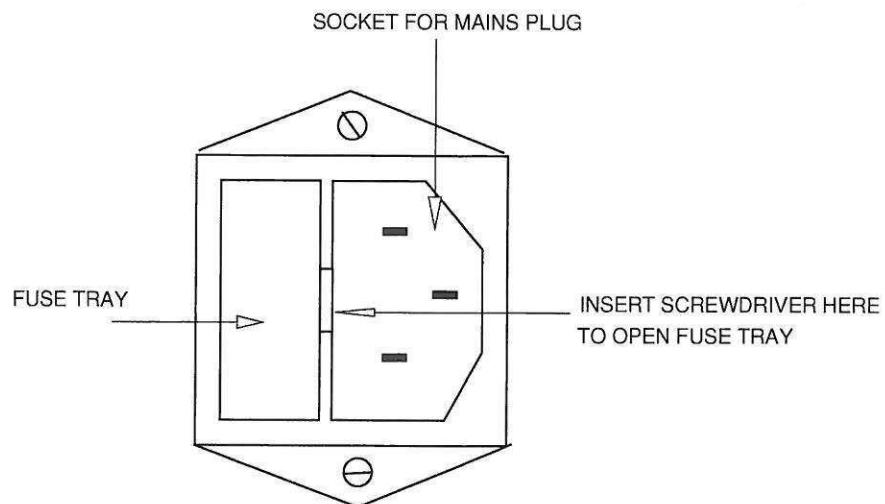
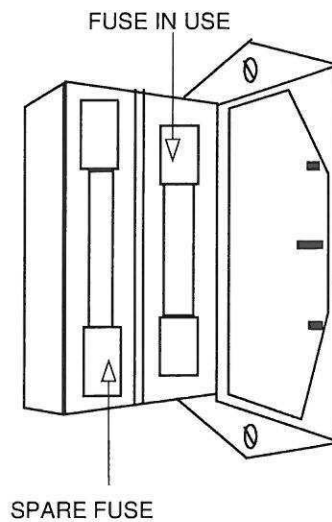

Figure 3.4 Power Connector Assembly - Fuse Tray Closed
Figure 3.5 Power Connector Assembly - Fuse Tray Open (Side View)
- (1) Using a screwdriver or suitable small instrument, prise forward the fuse tray from the power connector assembly, as shown in Figure 3.4 and Figure 3.5.